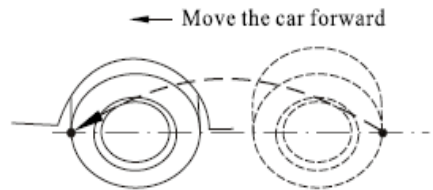

Figure 2
- 2)Push the vehicle forward so that the mark moves to the same position as the measured height. As shown in figure 2.